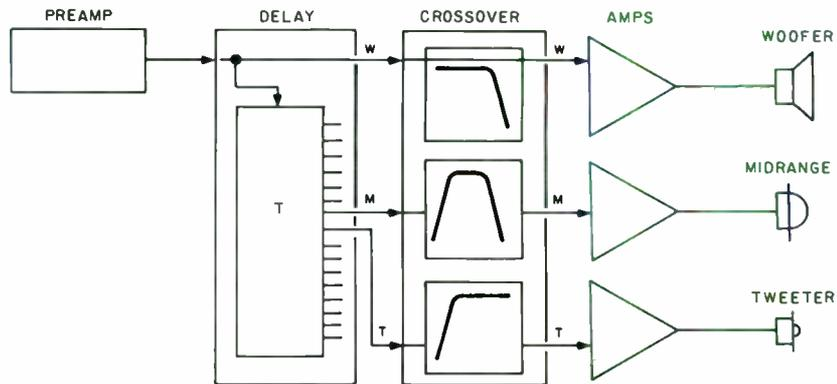

FIGURE 8: Preferred installation location of delay line.
**INSTALLATION.** Figure 8 shows the preferred installation location for the delay line. Delay sections for midrange and tweeter can be shared and is superior from a noise standpoint. For example, AC power line hum picked up by the delay line cables would be filtered out for midrange and tweeter. For some applications (such as subtractive cross-